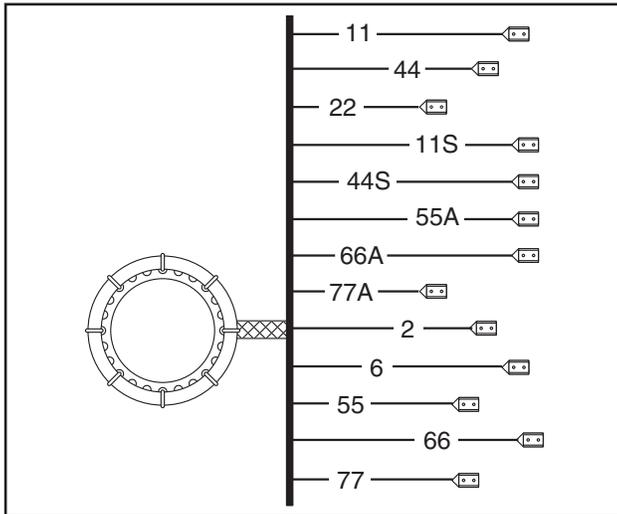

Figure 3-3. – Stator Assembly Leads
The stator can houses and retains (a) dual AC power windings, (b) an excitation winding, and (c) two battery charge windings. A total of thirteen (13) stator leads are brought out of the stator can as shown in Figure 3-3.